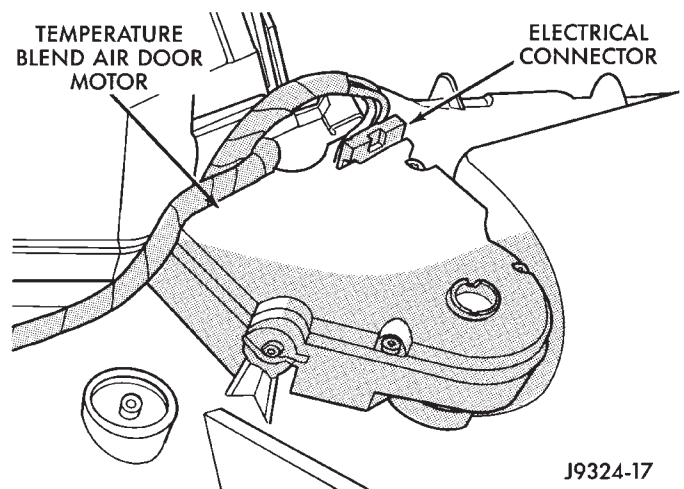

Fig. 64 Blend-Air Door Motor-Typical
- (1) Disconnect and isolate the battery negative cable.
- (2) Remove the glove box door. Remove the lower I/P glove box door surround panel.
- (3) Unplug the wire harness connector from the temperature/blend-air door motor (Fig. 64).